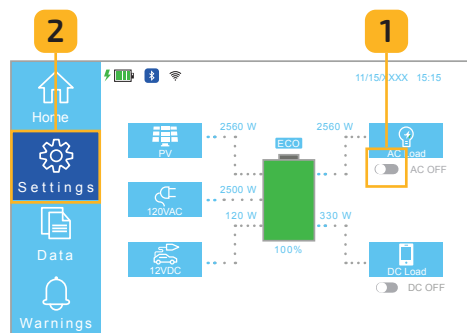

Fig. 6.11 Turn AC output switch OFF
1. On the Homepage UI, toggle the **AC Output** switch to **OFF** (Fig. 6.11).